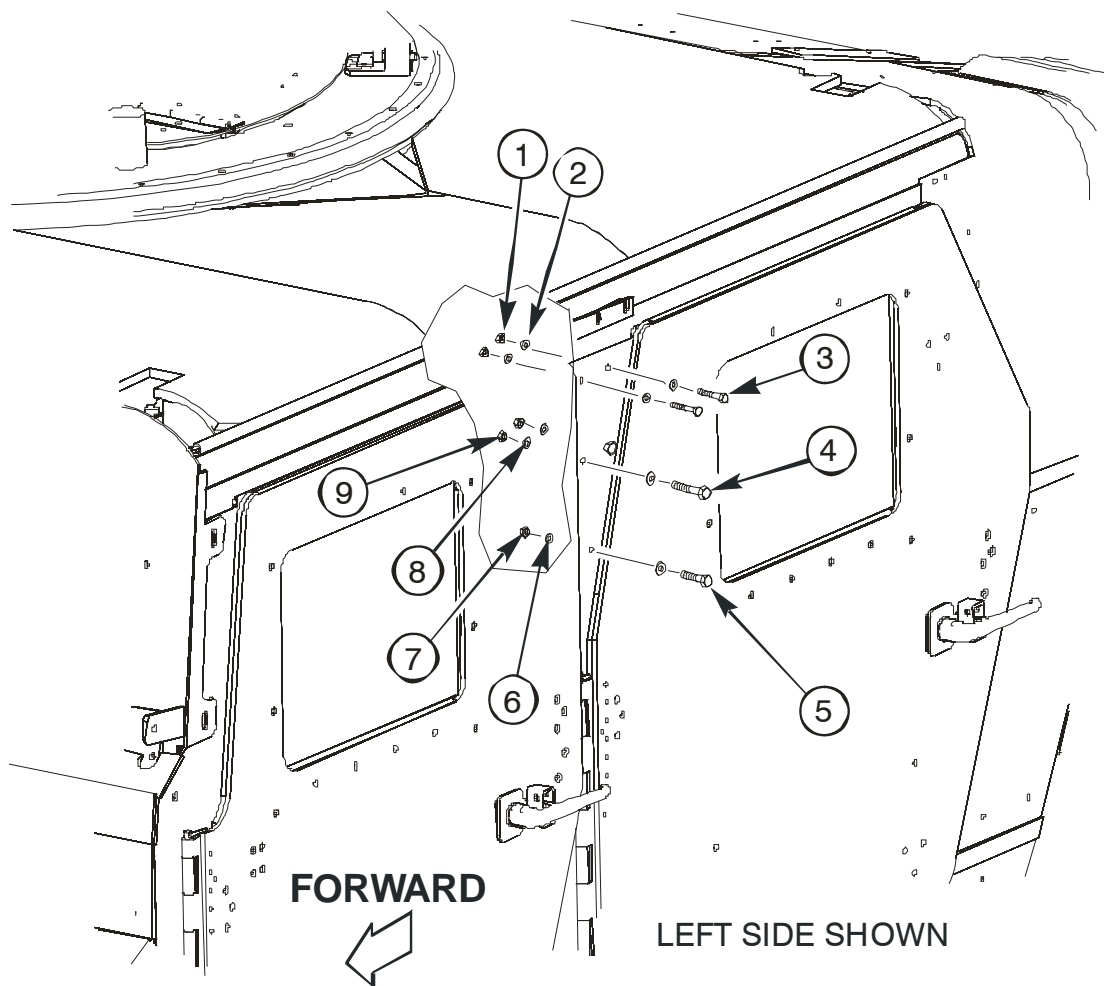

Figure 9.
14. Remove two screws (3), two washers (2), two nuts (1), one screw (4), one washer (8), one nut (9), one screw (5), washer (6) and nut (7) from the B-pillar locations shown in figure 9. Discard used fasteners.